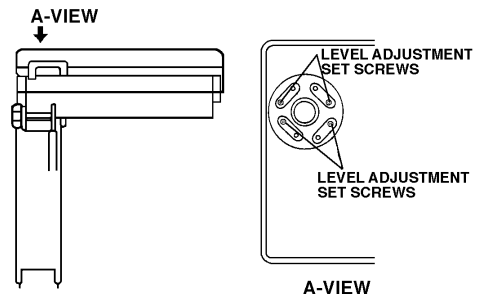

Fig.9-1 Adjustment of Doctor Table Level
1. Adjustment of Doctor Table Level (**Fig.9-1**)